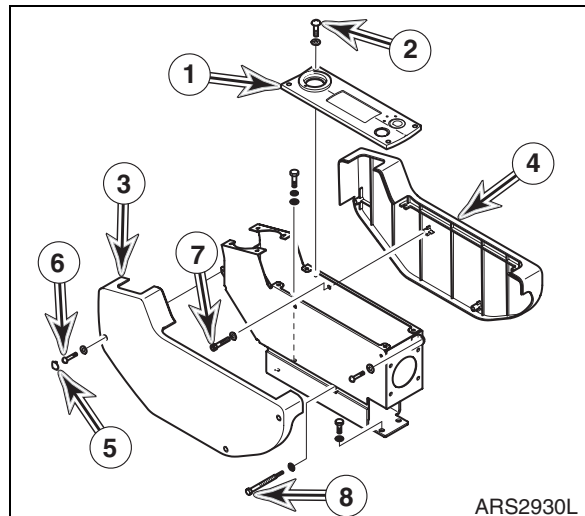

Figure 6
16. Remove four bolts and washer (2, Figure 6), and cover (2).
17. Pull cap (5, Figure 6) out and remove screw, three bolts and washers (6) and cover (3).
18. Remove two screws, two bolts and washers (7 and 8, Figure 6) and cover (4).